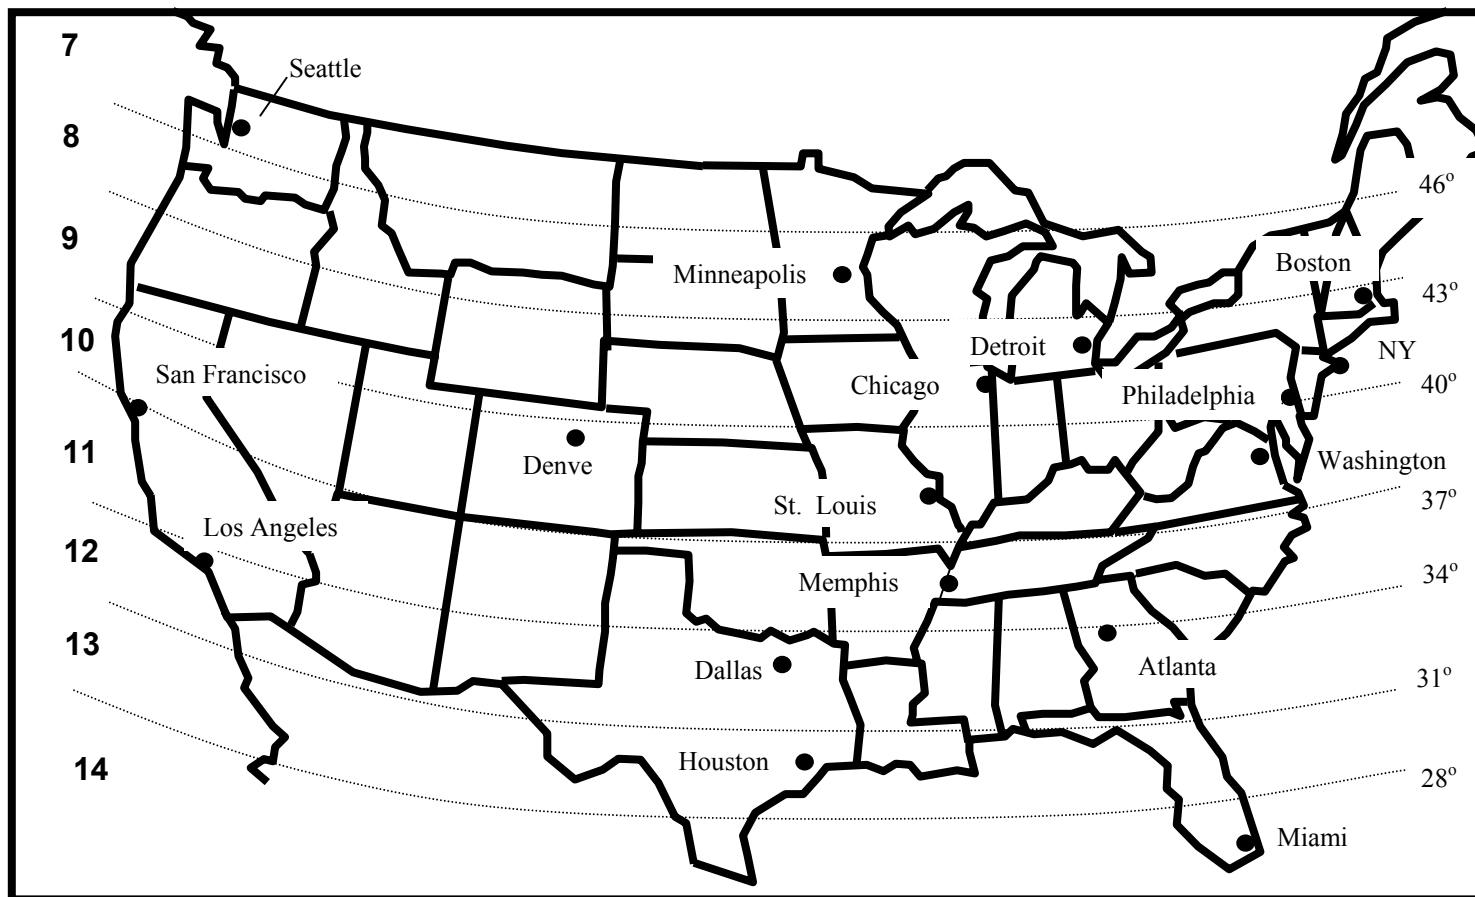

Figure 2-2 : Latitude Compensation Zones (USA)
Step 4. Turn the scale's AC power on to begin use. When the scale is switched on for the very first time, the message "**d-ZonE**" appears on the display. Press the numeric key corresponding to the correct geographic area in the map shown in Figure 2-2 then press the **SAMPLE / SAVE** key to save. **Note** – If there is no corresponding geographic area, enter "0" then press the **SAMPLE / SAVE** key. No gravitation adjustment will be performed.